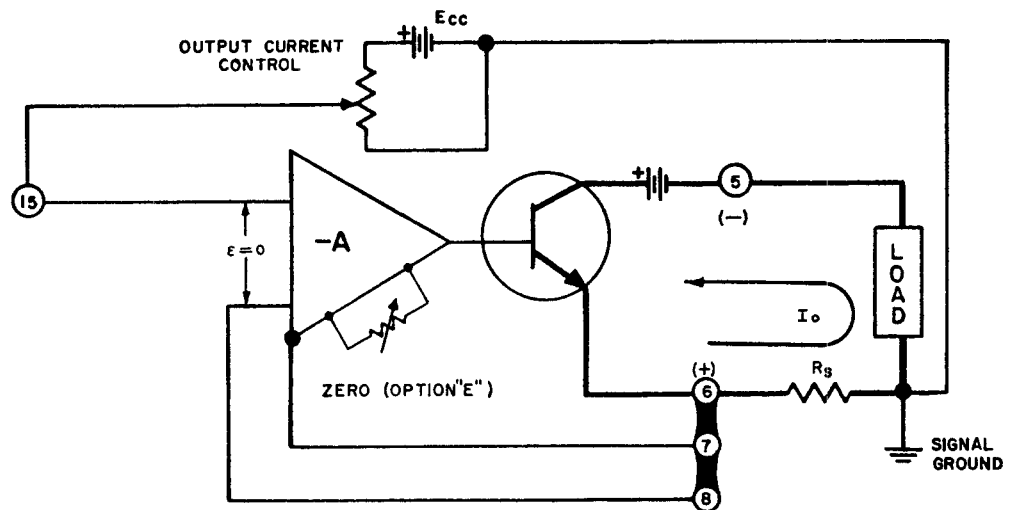

FIG. 3-11 EQUIVALENT DIAGRAM, PTR WITH EXTERNAL SENSING AND VOLTAGE CONTROL.
- 3-52 The transfer function for output control by voltage was derived from FIG. 3-11 below and can be expressed by:
**NOTE:** This equation (Eq. 2) is derived from the equivalent diagram (FIG. 3-11), and is valid for the "zeroed" PTR.
- 3-53 The circuit shown in FIG. 3-11 is suitable for output current from about 1 mA down to  $1\ \mu\text{A}$ . The necessary sensing resistors for various current ranges are given in the table for a control voltage ( $E_{CC}$ ) of 0–1 volt. For other control voltages, they can be calculated using the output equation (Eq. 2).
- 3-54 The external control voltage ( $E_{CC}$ ) may simply consist of a potentiometer across a mercury cell (as indicated in FIG. 3-11) or it may be a controlled voltage source of your choice. The voltage source ( $E_{CC}$ ) must be stable, but its current capacity can be quite small, since it is connected to a virtually open circuit (provided the offsets are nulled or zeroed, as previously described in par. 3-45). If offset current zeroing is *not* used,  $E_{CC}$  must supply the offset current (typically  $0.1\text{--}0.5 \times 10^{-6}\ \text{A}$ ).